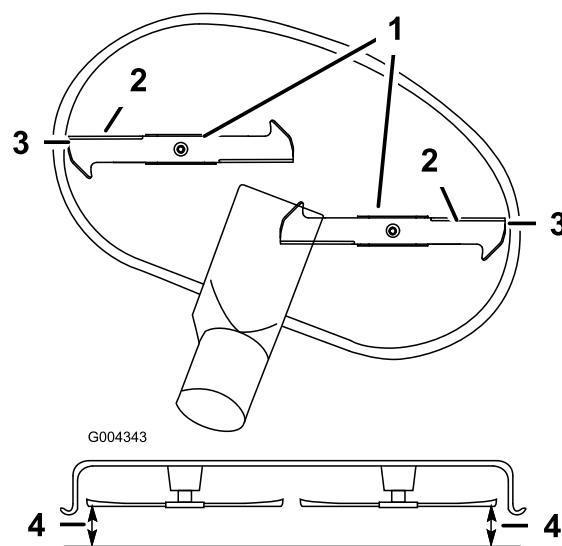

Figure 51
5. Carefully rotate the blade(s) side to side (Figure 51). Measure between the outside cutting edges and the flat surface (Figure 51). If both measurements are not within 3/16 inch (5 mm), an adjustment is required; continue with this procedure.